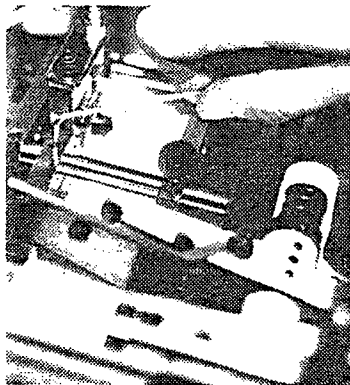

Fig. 1
1. ADJUSTING FIXED ELASTIC GUIDE POSITION (Fig.1)